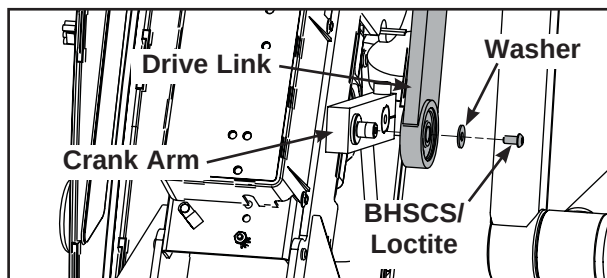

Figure 6
- B. Using a 5/32" Allen wrench, remove the BHSCS securing drive link to the crank arm. See Figure 6.
- A. Attach the new drive link (A) to the crank arm. See Figure 6.
- B. Place a drop of loctite (B) on the BHSCS and another drop inside the shaft where the BHSCS will be tighten into.
- C. Using a 5/32" Allen wrench, install the BHSCS/loctite and washer as shown in Figure 6. Tighten securely.